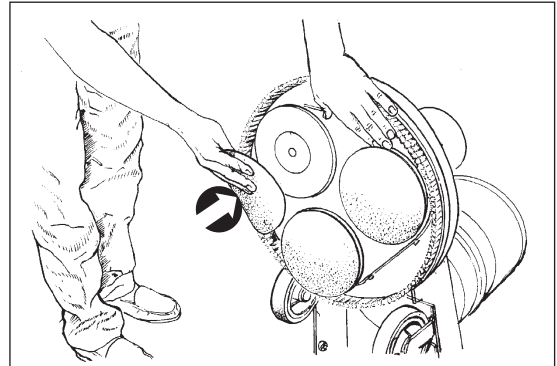

Figure 12
10. Install or replace sandpaper or screen and pad. The sandpaper, screen, and pad should be replaced if there are any tears or if they have become worn and dull. The pad should also be replaced if its thickness is less than 1/8". To install or replace the sandpaper, screen, or pad: (See Figure 12)